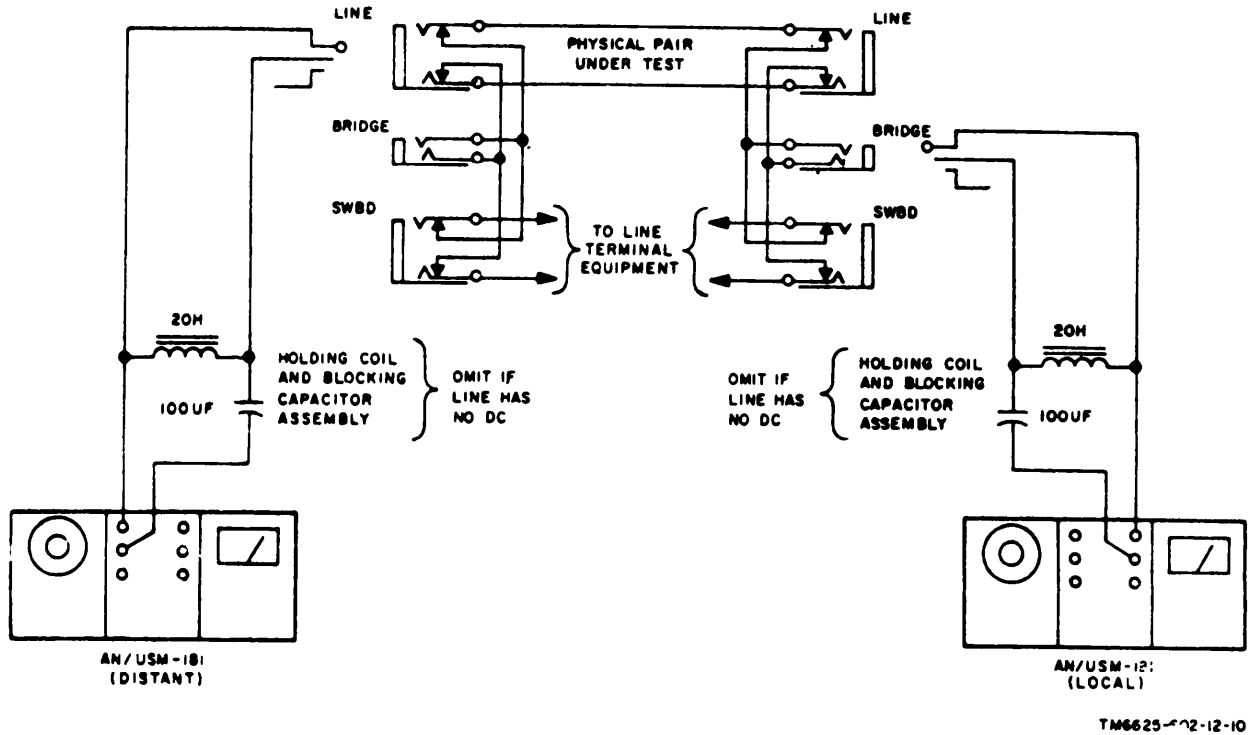

Figure 10. Transmission line tests (connection diagram)
- (1) Set the oscillator RANGE switch to desired range of frequency to be used and allow 20 seconds for oscillator to stabilize.
- (2) Set the voltmeter FUNCTION switch to ON and allow 20 seconds for voltmeter to stabilize.
**Caution:** If the transmission line to be tested has dc voltage applied to it, connect a dc holding coil to each end of the line. This allows for a dc path and enables the signal to enter and leave the transmission line. No dc should be allowed to flow through the patch panel (fig. 10).
the line is to be terminated and tested, to the BRIDGE jack when the line to be tested is terminated by terminal equipment, or to the SWBD jack when the terminal equipment is to be tested (fig. 10).